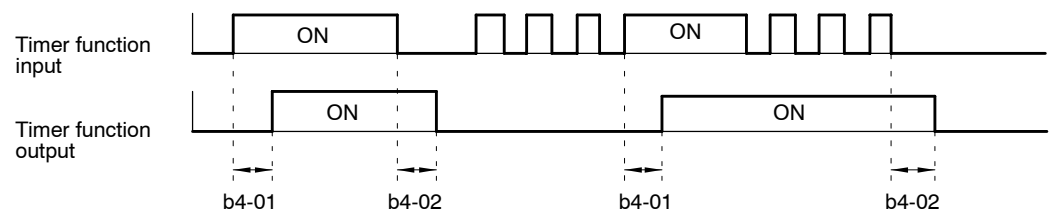

Fig 7.20 Operation Example of Timer Function
- When the timer function input OFF time is longer than the value set for b4-02 (timer function OFF-delay time), the timer function output turns OFF. An operation example of the timer function is shown in *Figure 7.20*.